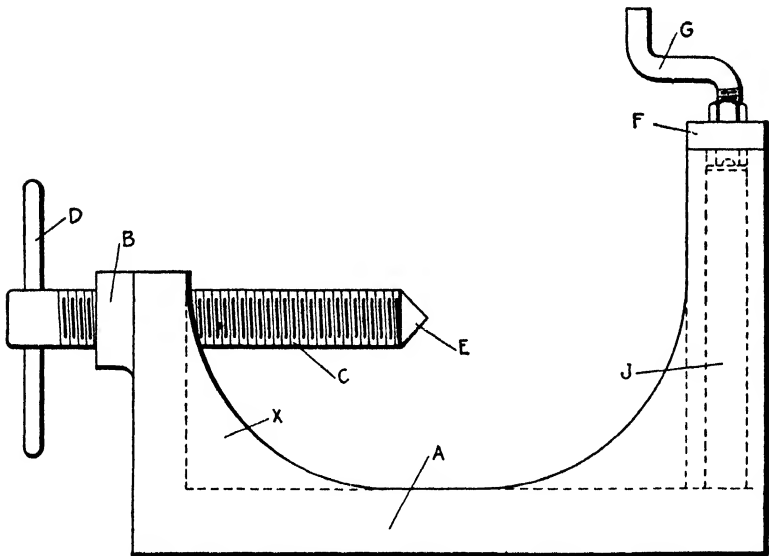

Fig. 21. Bearing Puller Side View
**Bearing Puller.** There are several bearing pullers on the market, but they are not adaptable to every kind of job and are weak when it comes to a real hard pull. A practical puller is shown in Fig. 21. The base *A* is of cast iron, having a front vertical standard *J* and a boss *B* cast to receive the screw *C*. This screw is  $\frac{3}{4}$  inch with a standard thread. A good snug fit